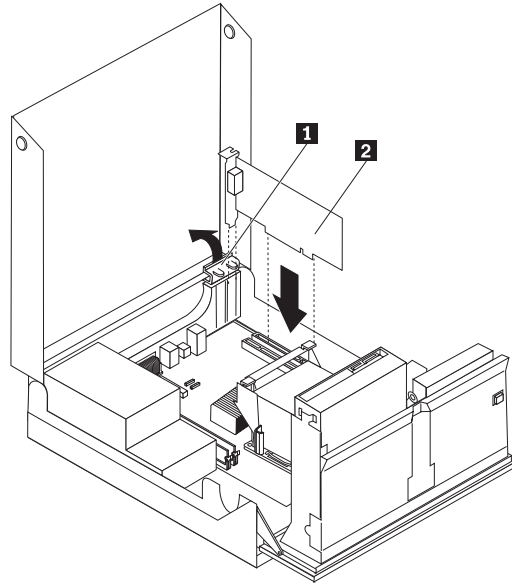

Figure 31. Opening the adapter card retainer and removing the adapter card
2. Rotate the adapter card retainer **1** to the open position to remove a failing adapter card or to add an adapter card. See Figure 31.